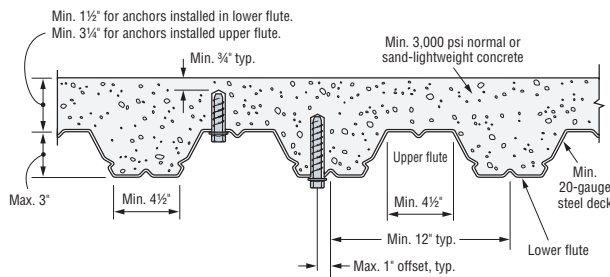

Figure 1. Installation of 3/8"- and 1/2"-Diameter Anchors in the Soffit of Concrete over Steel Deck
3. For anchors installed in the soffit of sand-lightweight or normal-weight concrete over steel deck floor and roof assemblies, as shown in Figure 1 and Figure 2, calculation of the concrete breakout strength may be omitted.